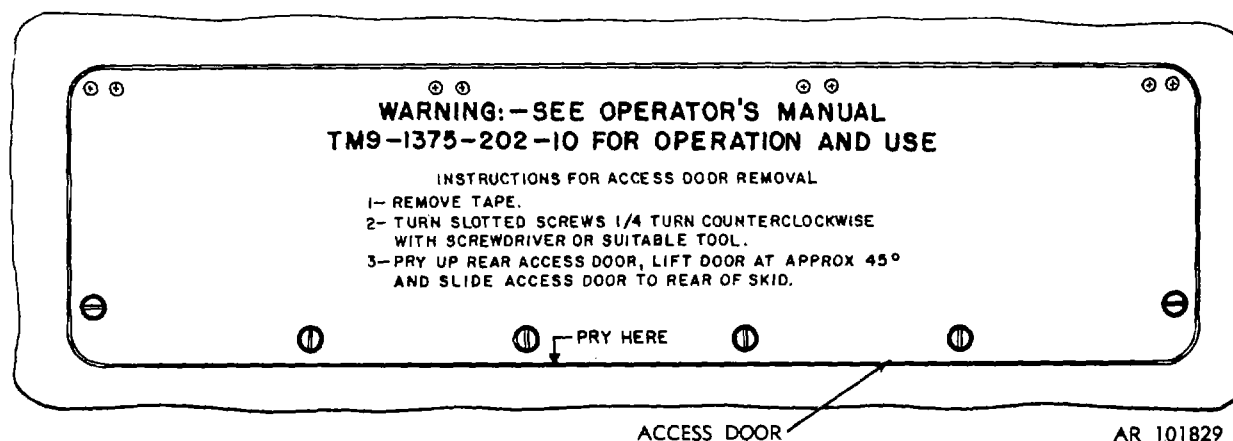

Figure 2-2. Marking on access door.
(4) Remove adhesive tape covering seam around access door. Save tape for securing electrical cables to tow vehicle. See figure 2-2 for marking on access door.